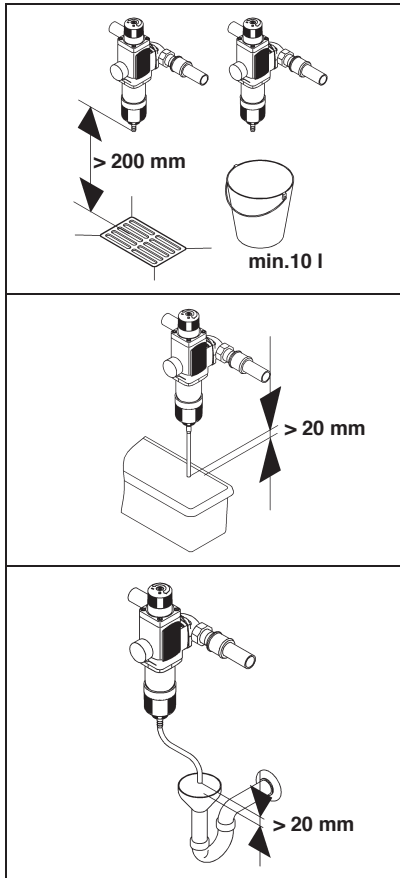

Fig. 4: Backwashing water discharge options
- When the bucket is half-filled the backwashing process must be stopped. Otherwise it is possible for the bucket to overflow. Therefore the bucket must be adequately dimensioned (see fig. 4) and the backwashing should be carried out quickly.